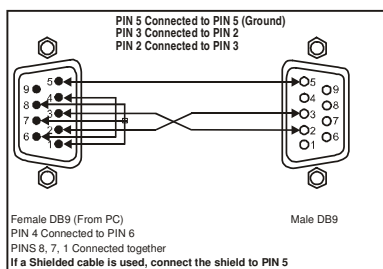

Figure 6: Connecting a PC without using a Null-modem Adapter
- Connect the RS-232 DB9 port on your PC to the RS-232 DB9 rear panel port on the Master **VP-4x4** unit, as Figure 6 illustrates